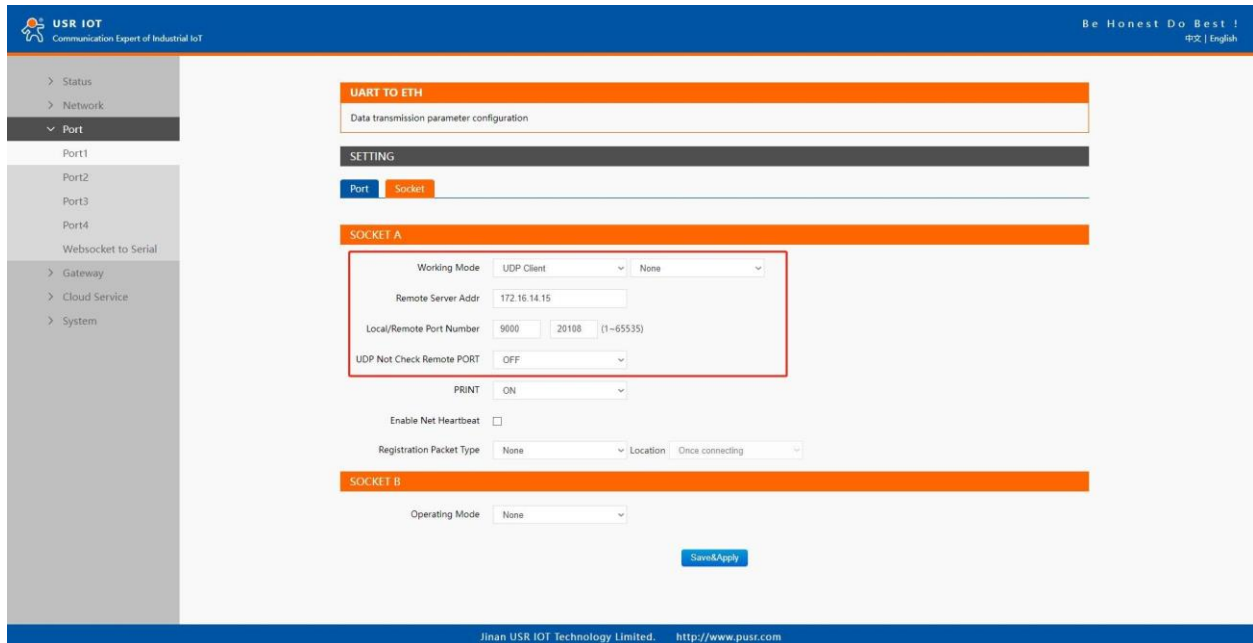

Fig.55 UDP client work mode
When the working mode of the device is UDP client, the remote device must also work in UDP mode. N5X0 supports remote IP address and port verification. After verification is enabled(OFF), the N5X0 only communicates with the destination port of the destination IP address. If the data is not from this channel, the N5X0 will discard the data. If verification is disabled(ON), N5X0 does not filter the data of the destination IP address and destination port. Fig.55 shows an example of configuration setting for UDP Client mode under the Port1 socket page. You can configure other serial ports in the same way.
1. Click on the “Port1” tab on the menu frame on the left side of Web UI to go to Port1 page as shown in Fig.55.